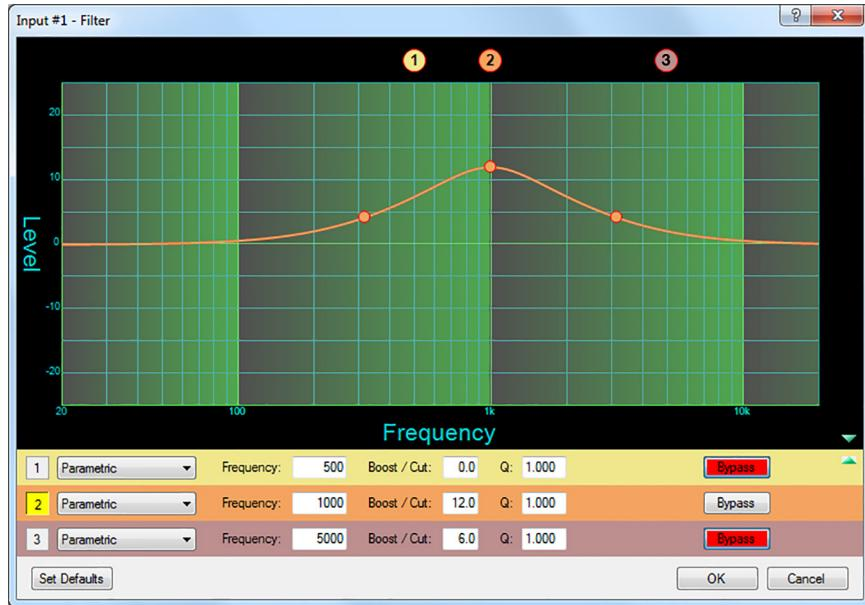
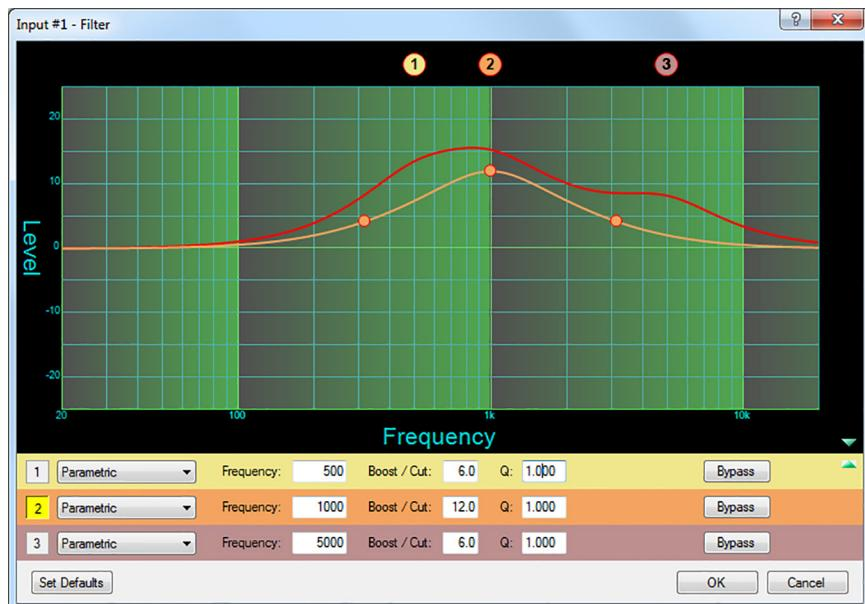

Figure 36. Parametric Filter Dialog Box, 1000 Hz
Figure 37. All Parametric Filters Active
To demonstrate how Q affects the filter, see the filter dialog box in figure 36 on the next page, which contains three parametric filters centered at different frequencies but with the same Q value of 1.0. The filter that is in focus (2) has a center frequency of 1000 Hz, boosting that frequency +12 dB over a Q of 1.0. Note that the markers on either side of the peak frequency are at 200 Hz on the left and 5000 Hz on the right, a bandwidth of about 4800 Hz.
The dialog box in the figure 36 example shows the frequency curve for a single active filter. To add its effect to the overall frequency response, deselect the **Bypass** button for the other filters, as shown in the figure 37.
The overall frequency response is now shown in figure 37 as a solid red line with the filter in focus, located in row 2 and shown in the color of its table row.